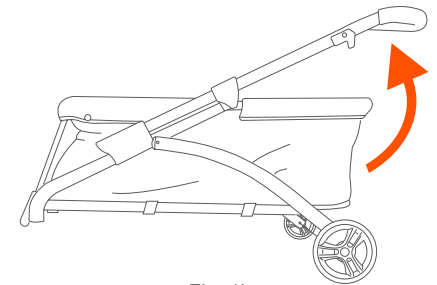

Fig. 1b
- Unfold the stroller frame by pulling the stroller handle upward until it clicks into a locked position (Fig. 1b).